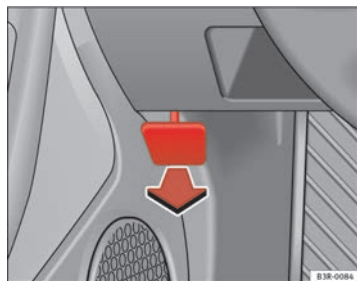

Fig. 176 Detail of foot-well area on driver's side: lever for unlocking the bonnet.
- To release the bonnet, pull the lever under the instrument panel ⇒ **fig. 176** in the direction indicated (arrow).